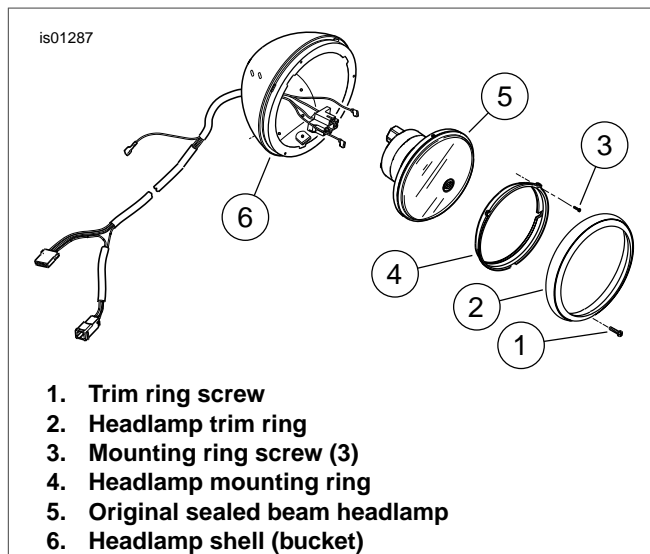

Figure 1. Remove Headlamp Components
2. See Figure 1. Remove the trim ring screw (1) at the bottom of the trim ring (2), and remove the trim ring. Save the trim ring and screw for re-installation.